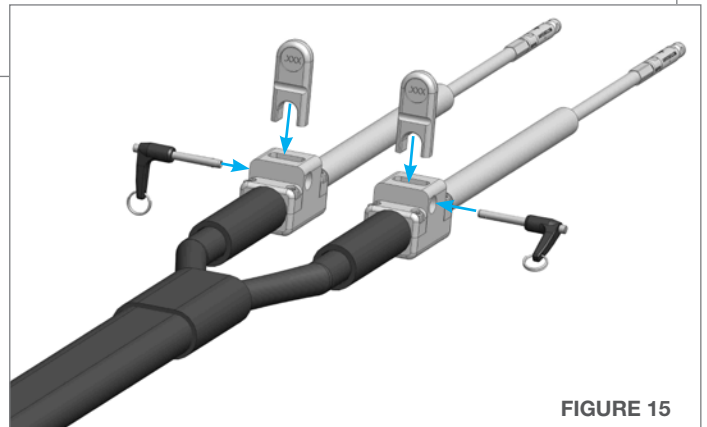

FIGURE 15
15. Replace the Hose Stop Collets and Quick Release Pins. **(Figure 15)**